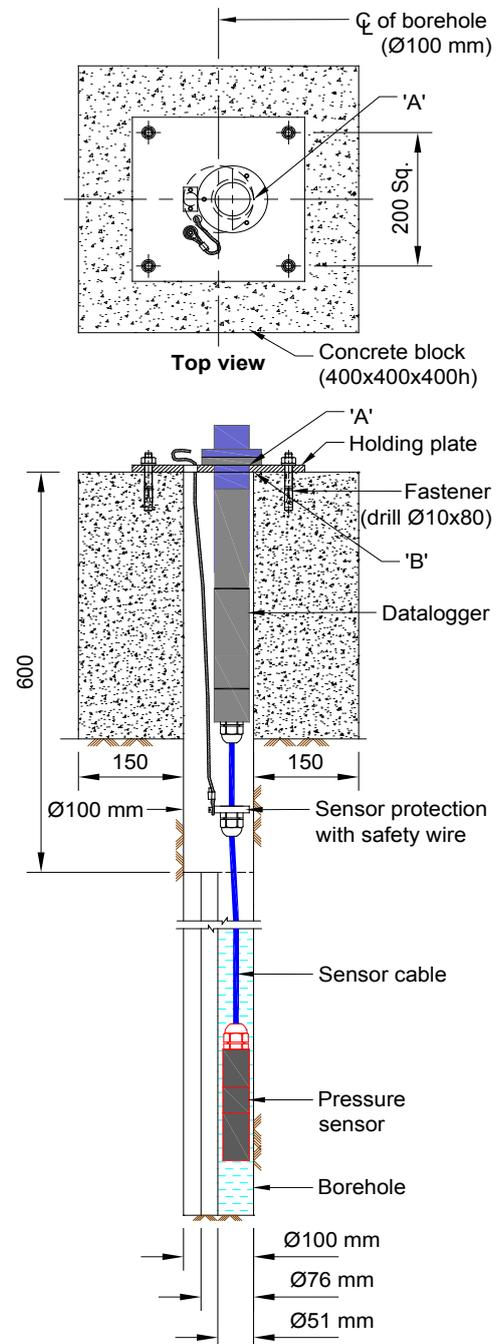

Figure 8-1: Installation
8.3.1 If an existing borehole is not available, drill a borehole around 0.5 m deeper than depth at which sensor is to be lowered. For borehole less than 100 mm in diameter, increase diameter in top 600 mm depth to 100 mm, eccentric with the drilled borehole as shown in figure 8.1.
8.3.2 At mouth of borehole, make a concrete platform (around 400 mm x 400 mm x 400 mm) concentric with the 100 mm diameter at the top of the borehole as shown in figure 8.1. Make sure that the top edge of the plastic pipe coming out of the borehole is flush with the raised platform by cutting any extra length from the top.
8.4.1 Remove stainless steel holding plate from the packing case. The holding plate has a 60 mm diameter hole which is to be mounted 20 mm eccentric by aligning its edge with the edge of the 100 mm diameter borehole. Refer to figures 8.1 and 8.2. Provision of eccentric mounting is made for convenience in taking water table reading manually using a water level sounder.
8.4.2 Place holding plate on concrete block. Align edge of 60 mm hole in holding plate (marked A) with edge of 100 mm hole in concrete block (marked B) as shown in figure 8.1.